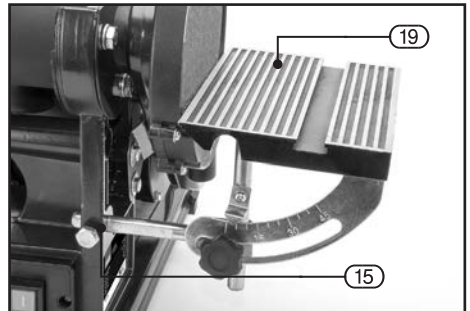

FIG.8
8.6 WORK SUPPORT TABLE ATTACHED TO SANDING DISC - FIG. 8